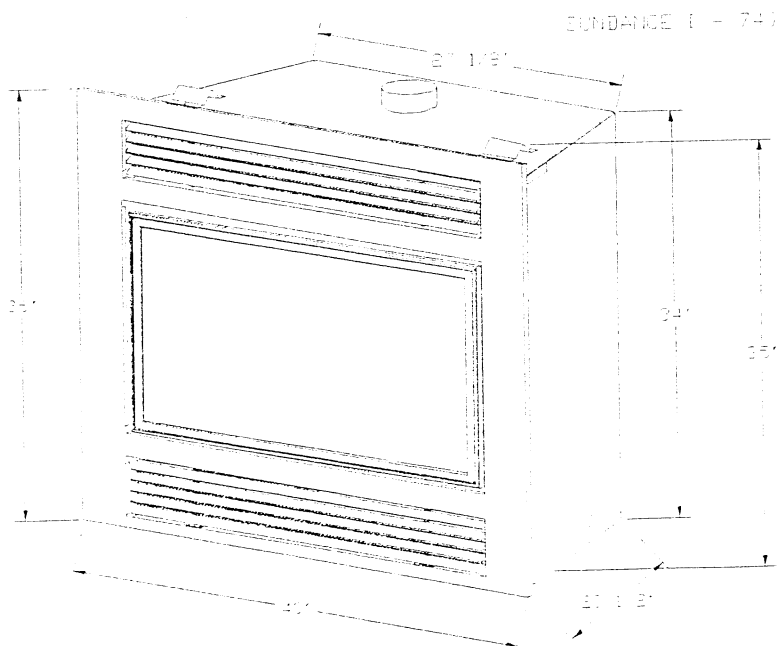

Figure 1
UNIT SPECIFICATIONS. See figure 1.
2. The unit may be installed on either an exterior or interior wall. Figure 1 shows various installation options.